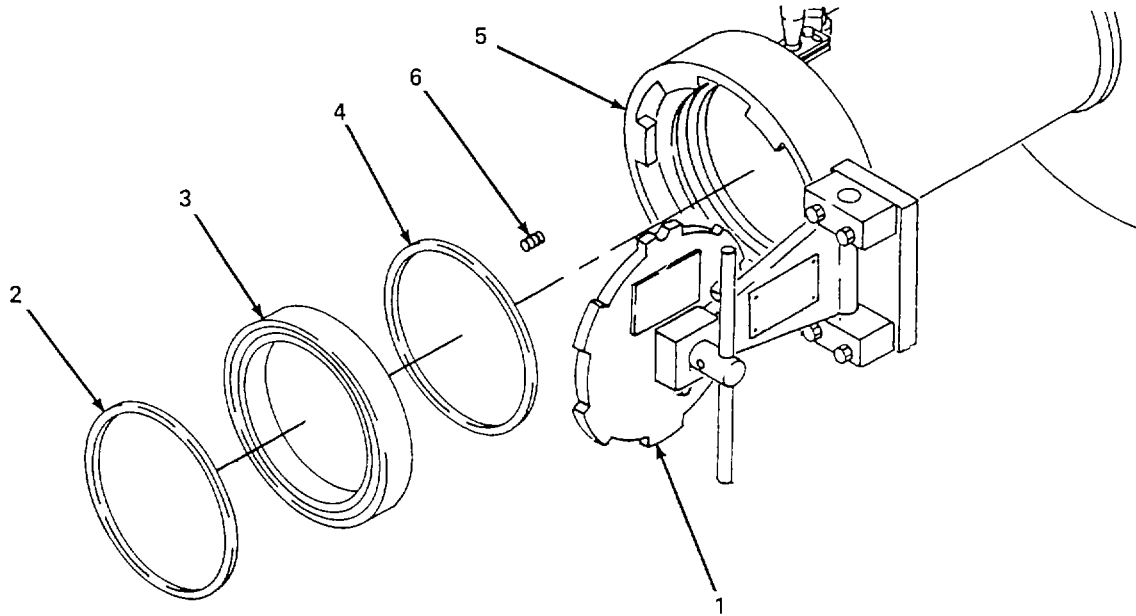

Figure 4-4. Service of Medical Lock Outer Door Seals.
b. Medical Lock Outer Door. (figure 4-4)
- (1) Open door (1) and gently pry preformed packing (2), seal ring (3) and second preformed packing (4) from seat in medical lock door frame assembly (5).